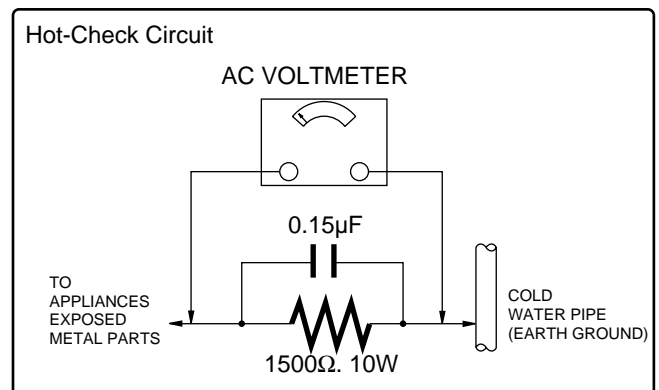

Figure 1
## LEAKAGE CURRENT HOT CHECK (See Figure 1)
2. Connect a 1.5K ohms, 10 watts resistor, in parallel with a  $0.15\mu\text{F}$  capacitor, between each exposed metallic part on the set and a good earth ground such as a water pipe, as shown in Figure 1.